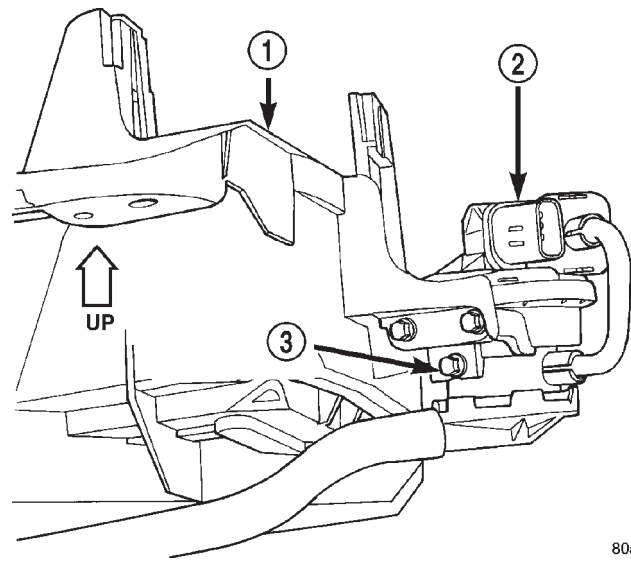

Fig. 26 Leak Detection Pump (LDP) Mounting Screws
(10) Remove 3 LDP mounting screws (Fig. 26) and remove LDP from vehicle.